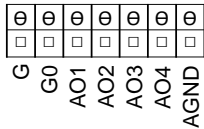

Figure 3 Wiring diagram
5. Connect the wires to the terminals according to the wiring diagram in *Figure 3*
The terminals are accessed by twisting the cover. Connect the cables according to Figure 3 Wiring diagram below.